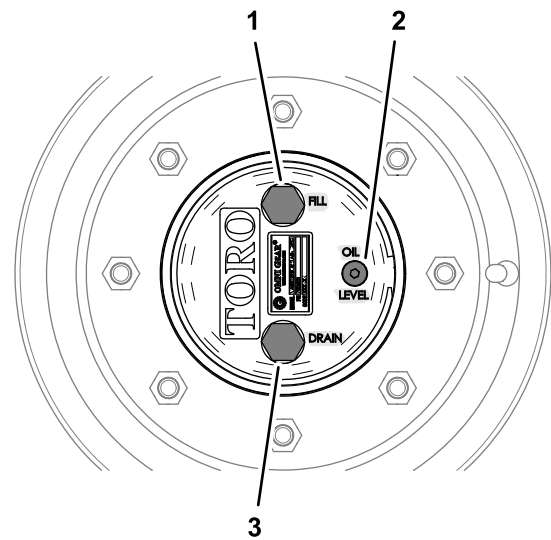

Figure 83
1. With the machine on a level surface, position a wheel so that the fill plug is at the highest (12 o'clock) position and the drain plug is at the lowest (6 o'clock) position (Figure 83).
1. With the machine on a level surface, position a wheel so that the fill plug is at the highest (12 o'clock) position and the drain plug is at the lowest (6 o'clock) position; refer to Figure 83 in Checking the Planetary-Gear-Drive Lubricant \(page 65\).